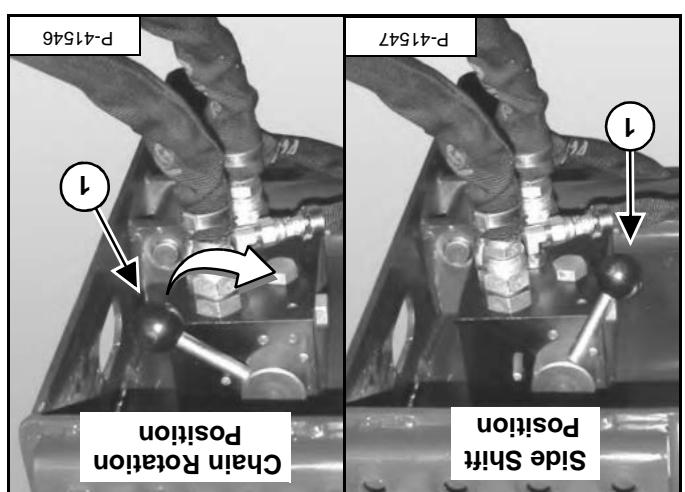

Figure OI-72
Move the selector valve lever (item 1) to the side shift position [Figure OI-72].